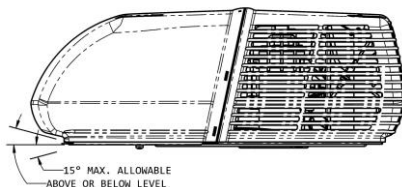

Figure 2
- C. The roof top air conditioner must be mounted as near level front to rear and side to side as possible when the vehicle is parked level. Figure 2 shows the maximum allowable degree deviations mounting degrees from total surface flat plane).